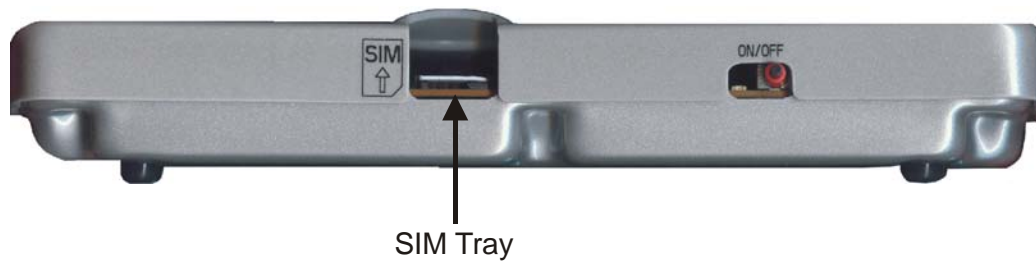

Figure 2-7: SIM Tray
- Insert a SIM card (Figure 2-7) into the SIM tray (J100) with the contacts down and the cut-off corner to the front and right